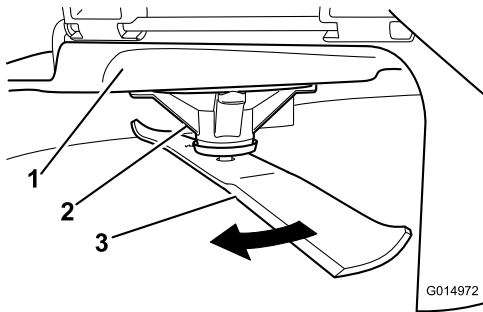

Figure 70
2. While wearing thickly padded gloves, or other adequate hand protection, slowly rotate the blade into a position that allows you to measure the distance between the cutting edge and the level surface the machine is on (Figure 70).